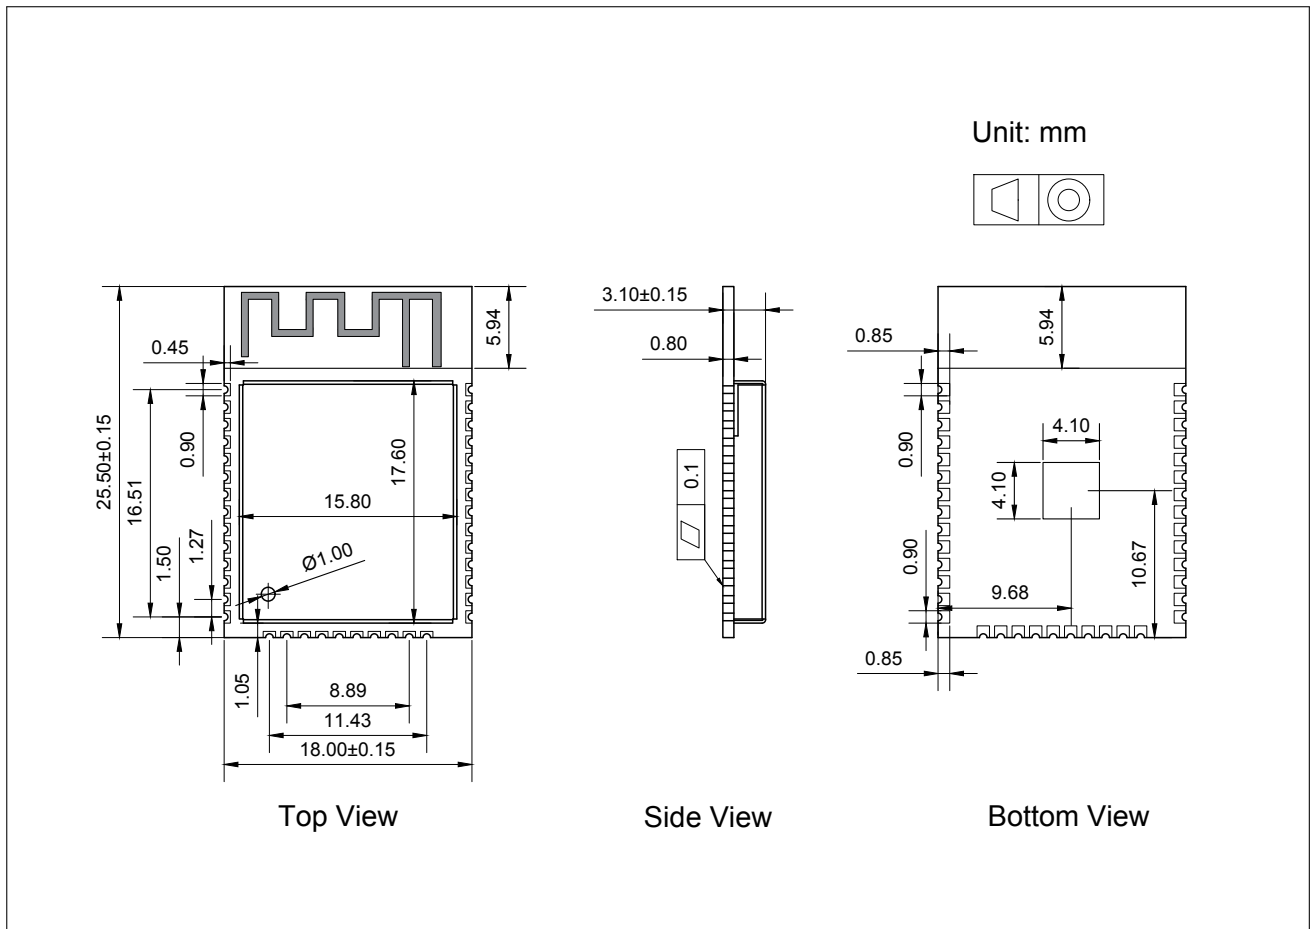
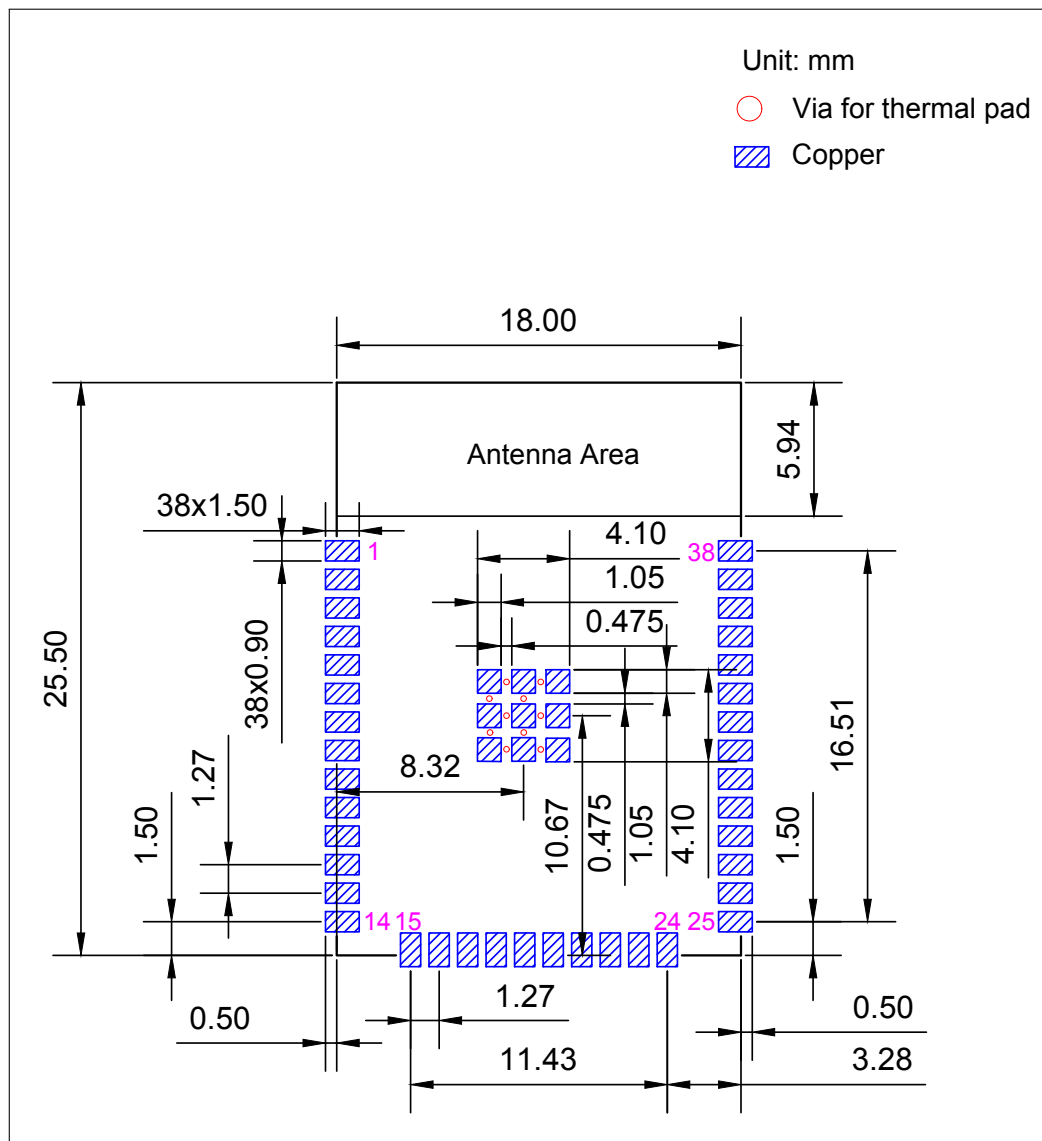

Figure 5: Physical Dimensions of ESP32-WROOM-32
Figure 6: Recommended PCB Land Pattern
- Figures for recommended PCB land patterns with all the dimensions needed for PCB design. See Figure 6 Recommended PCB Land Pattern.
- Source files of recommended PCB land patterns to measure dimensions not covered in Figure 6. You can view the source files for ESP32-WROOM-32 with Autodesk Viewer.
| 2022.03 | v3.3 | <p>Added a link to RF certificates in Table 1</p> <p>Updated Table 5</p> <p>Added a note below Figure 5</p> <p>Added Section 11: Related Documentation and Resources</p> |
| 2021.02 | V3.1 | <p>Modified the note below Figure: Reflow Profile.</p> <p>Updated the trade mark from TWAI™ to TWAI®</p> <p>Deleted Reset Circuit and Discharge Circuit for VDD33 Rail in Section 7: Peripheral Schematics</p> <p>Updated Figure 5: Physical Dimensions of ESP32-WROOM-32 and Figure 6: Recommended PCB Land Pattern</p> |
| 2019.09 | V2.9 | <ul style="list-style-type: none"> Changed the supply voltage range from 2.7 V ~ 3.6 V to 3.0 V ~ 3.6 V; Added Moisture sensitivity level (MSL) 3 in Table 1 ESP32-WROOM-32 Specifications; Added notes about "Operating frequency range" and "TX power" under Table 8 Wi-Fi Radio Characteristics; Updated Section 7 Peripheral Schematics and added a note about RC delay circuit under it; Updated Figure 6 Recommended PCB Land Pattern. |